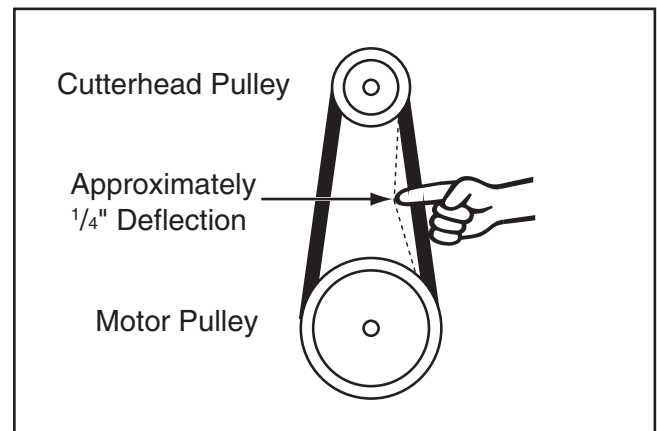

Figure 59. Checking 1/4" belt deflection.
3. Press down on motor pulley to keep tension on belt, and tighten (3) button head cap screws loosened during **Step 3** of **Replacing Belt**.
4. Press belt with moderate pressure in center to check belt tension. Belt is correctly tensioned when there is approximately 1/4" deflection when pushed (see **Figure 59**).